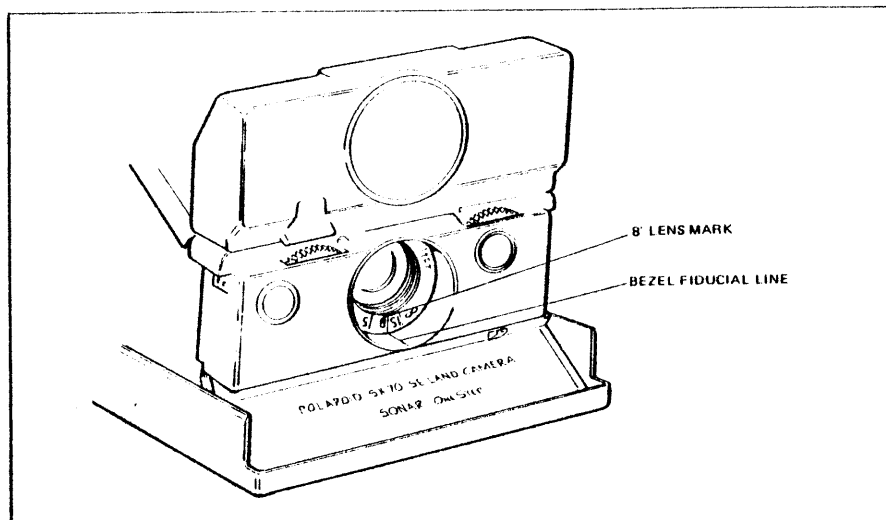

FIGURE 2-4. SX-70 SONAR CAMERA COLLIMATION
8. Observe the position of the lens decal (Figure 2-4). The 8 ft. mark should be lined up with the bezel fiducial line as indicated in the Sonar Cameras Specification Chart which appears at the end of this section.